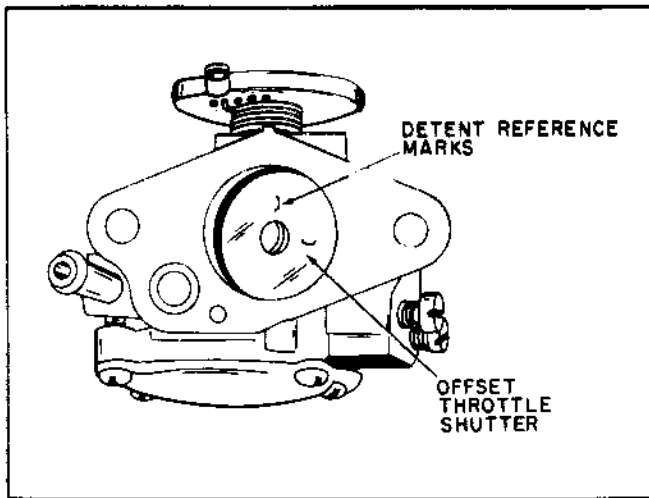

Figure 5-4
- (2) TO SERVICE IDLE GOVERNOR - Note position of throttle shutter. Reference marks on shutter must be positioned as shown in figure 5-4.